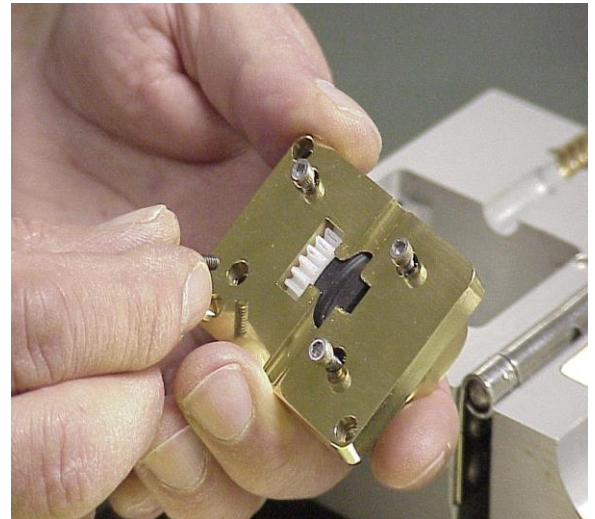

Figure 40
13.5.2.3 Use small 3/32" Allen wrench to remove four (4) short machine screws that secure Bearing Hangers. **See Fig. 40.**